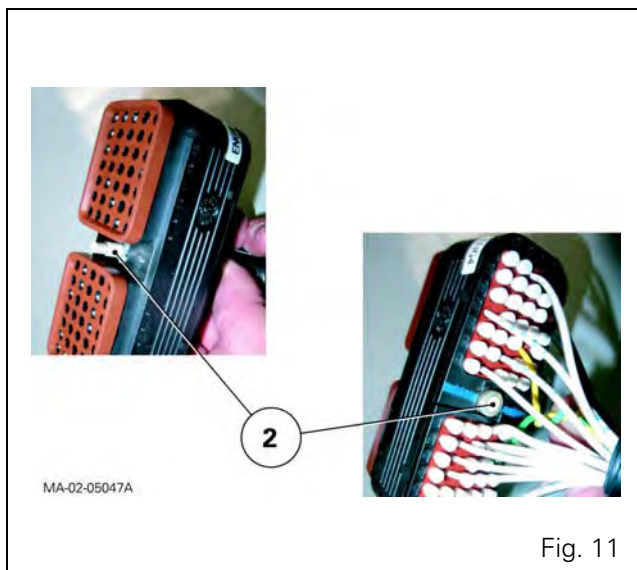

Fig. 11
- Screws (2) of connector (3) on main wiring harness from 2.82 to 3.15 Nm (Fig. 3 and Fig. 11).